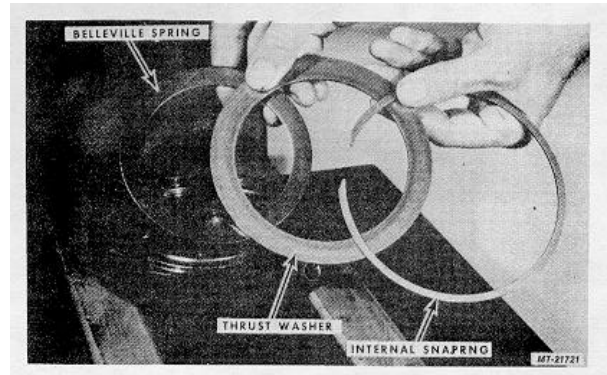

Fig. 29
26. Remove Internal Snapping, Thrust Washer and Belleville Spring, Fig. 29.